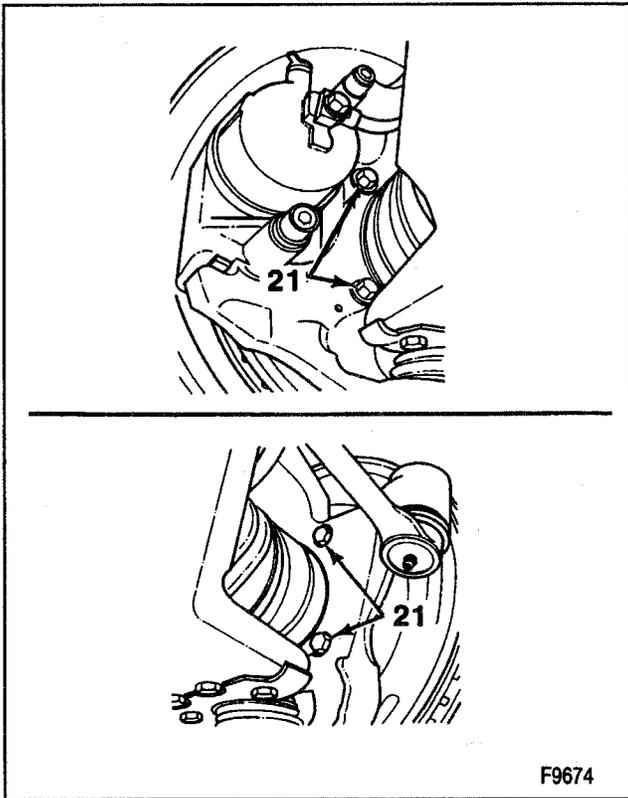

Figure 31—Removing Rotor Retaining Bolts (K-3)
4. Hub/rotor retaining bolts (21). (Figure 31).
→→ Install or Connect (Figure 31 through 34)